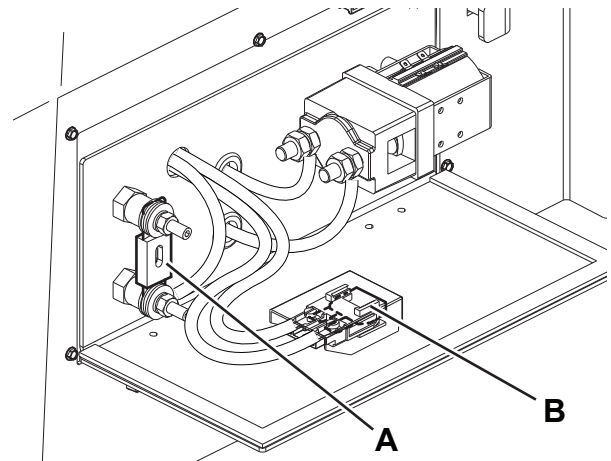

Figure 11
3. Turn the ignition key (57) to "O" and remove it.
4. Open the fuse box cover (23).
- (A, Fig 11): Main pump motor fuse F0 (250 A)
- (B): Auxiliary circuit lamellar fuse F10 (30 A) (B)
6. Close the fuse box (23).